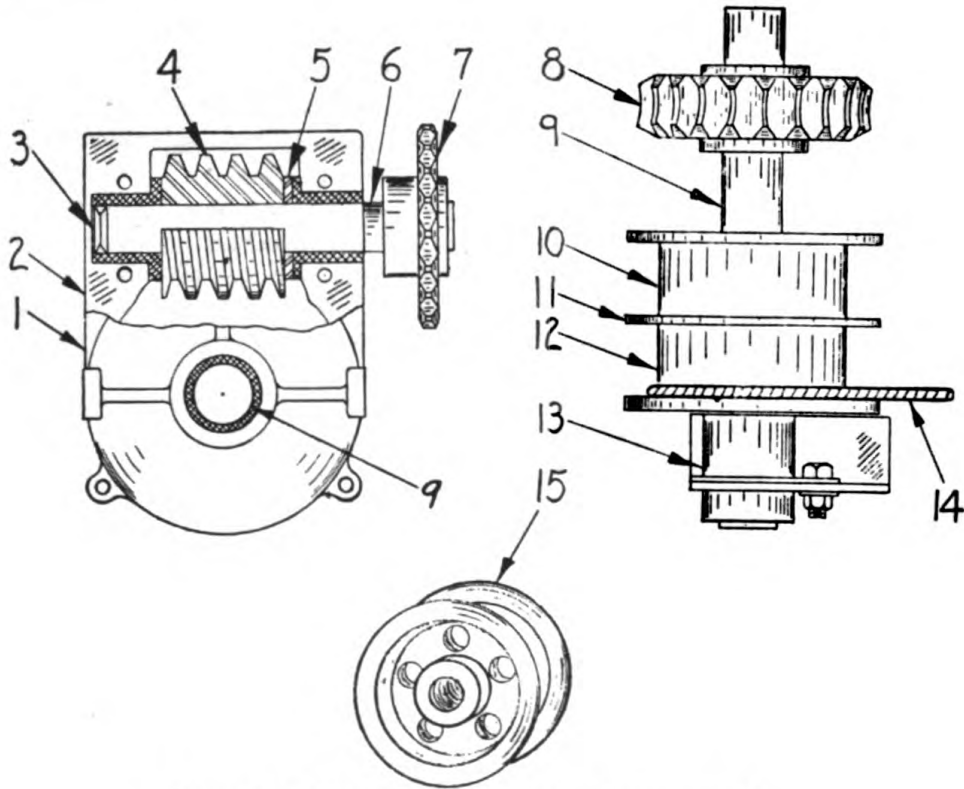

Figure 104. Cross section drawing of power hoist.
Sprocket (7) Figure 104, and the drive chain may be replaced. Drum parts (10), (11), (12) and the outboard bearing (13) are assembled to gear shaft (9) which extends through the substructure housing towards the engine. These parts are accessible and may be renewed without removing hoist. Any parts removed are installed by reversing the disassembly operation.
(a) After removal of the Main Jackshaft, take off the bearing (13) Figure 104, and cable drum parts (10), (11), (12), on the outside of the substructure housing alongside the engine. Remove the grease and oil piping which extends outside of the substructure housing, (opposite operator). Take out the bolts holding the hoist in place and the hoist assembly may be removed.
(c) Sprocket (7) Figure 104, is keyed and set screwed to shaft (6), worm (4) is keyed and set screwed in place with thrust washer (5) against hub and thrust button (3) in housing at end of shaft. Worm gear (8) is keyed and set screwed to shaft (9).